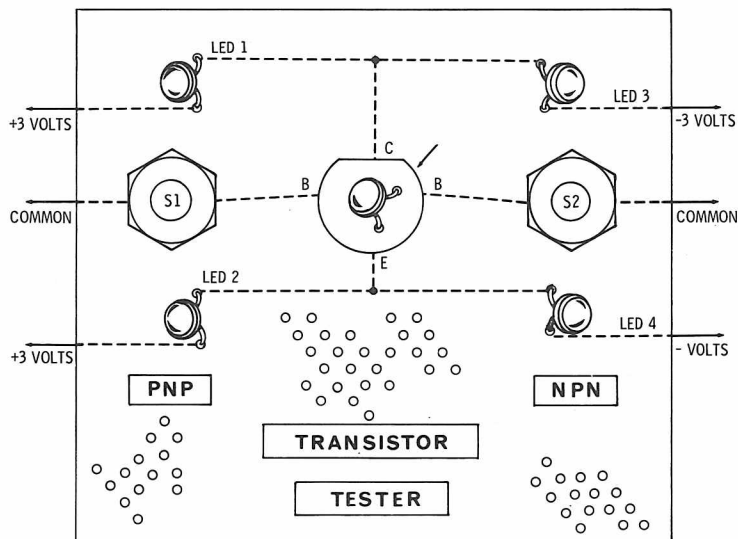

Figure 9-2. Pictorial diagram of the transistor tester.
Assembly of the transistor tester is straightforward. I constructed the prototype on a perforated board as shown in the pictorial view in Figure 9-2, but you can assemble your version in a portable cabinet if you prefer. The parts list is given in Table 9-1.
To duplicate the prototype, refer to Figure 9-2 and drill two $\frac{1}{4}$ -inch holes for the push-button switches and a $\frac{3}{8}$ -inch hole for the transistor socket. Then, install both switches and the socket. Use the mounting nuts supplied with each switch to secure the switches in place. The transistor socket should stay in place by merely pressing it into its mounting hole. (Protect the board from possible breakage by avoiding too much pressure when installing the socket.)
4. Solder the two PLUS leads from one holder to the anode leads of LED1 and LED2 (See Figure 9-2).